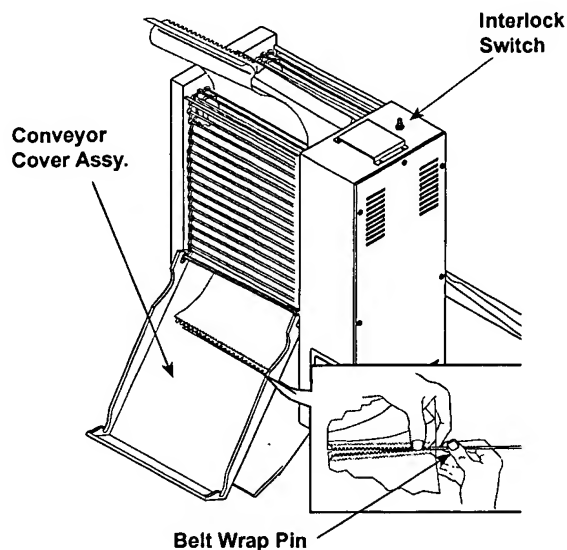

Figure 13. Removing Belt Wrap
4. Move belt wraps until connecting hinge is exposed and centered, then remove both front and rear belt wraps (Figure 13).